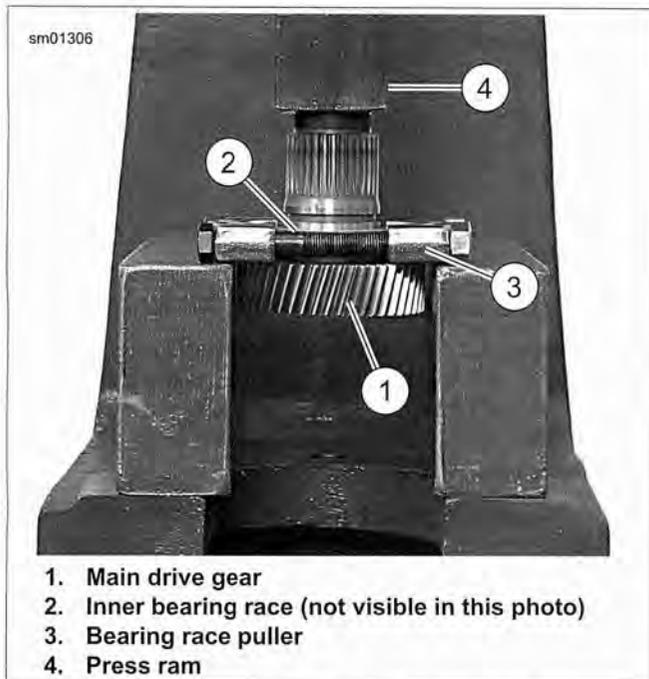

Figure 5-69. Removing Inner Bearing Race From Main Drive Gear (typical)
4. See Figure 5-69. Attach BEARING RACE PULLER (Part No. HD-95637-46B) (3) to inner race (2) on main drive gear (1).